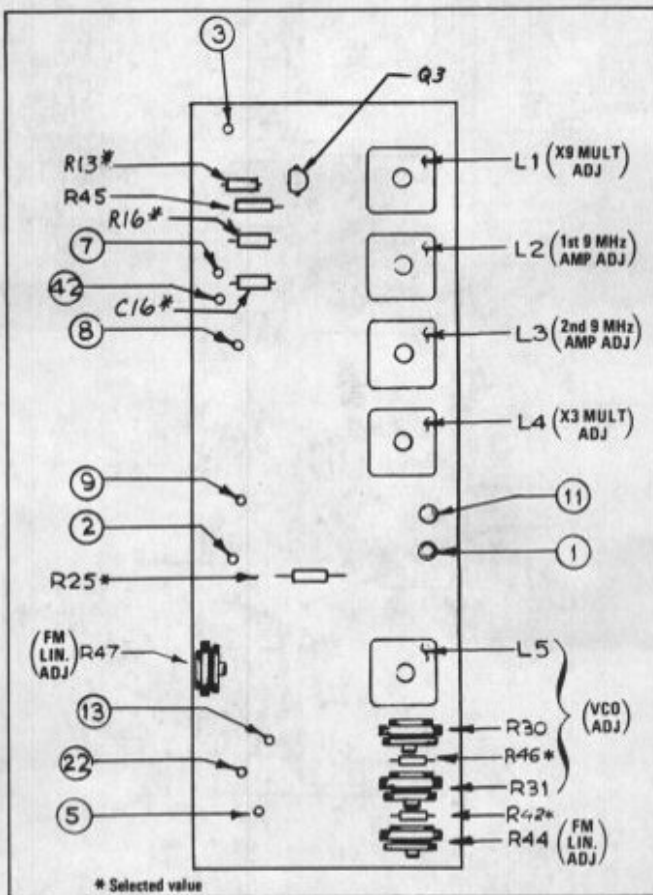

Figure 2-13. Trimmer Locations, VCO, 6 MHz, 9 MHz Assembly, A2
2.5.14 A2 Assembly Adjustment (See Figure 2-13)